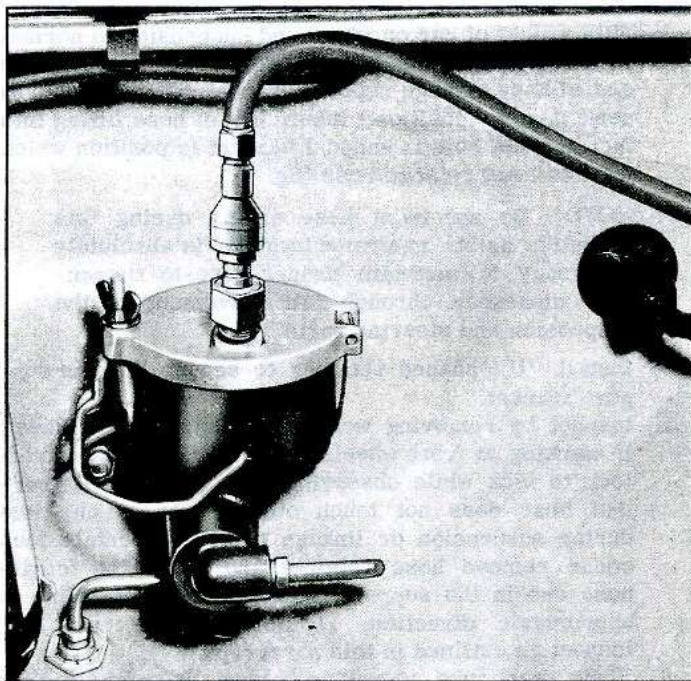

Fig. 5—Pressure Bleeding
2. Install Tool J-21479 (fig. 5), connect bleeder equipment to Tool J-21479, and open release valve on bleeder equipment.